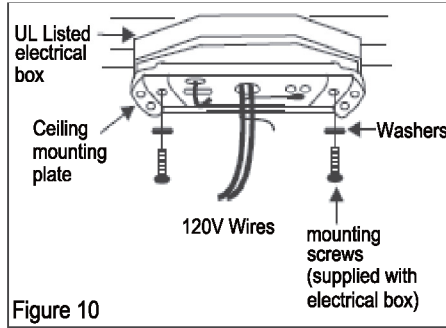

Figure 10
1. Pass the 120-volt supply wires through the center hole in the ceiling mounting plate as shown in Fig. 10.
2. Install the ceiling mounting plate on the electrical box by using the mounting screws provided with the electrical box. When using the close-to-ceiling mounting, it is important that the mounting plate be level. If necessary use leveling washers (not supplied) between the mounting plate and electrical box. Note that the flat side of the mounting plate is toward the electrical box. (Fig. 10)